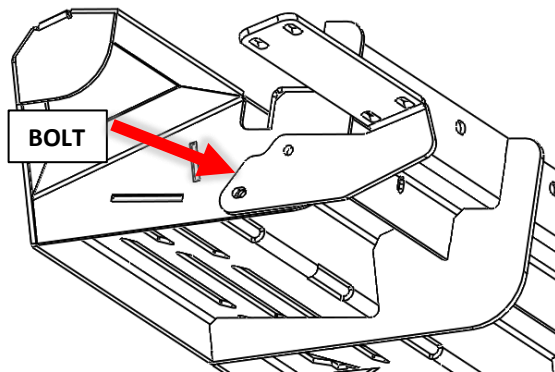

Figure 9: Installation of 90 Degree Bracket
- Loosely install the 90 degree bracket to the back of the rear bracing on the rear shroud. Use the pre-cut hole on the shroud bracing and the lower, slotted hole on the 90 degree bracket to loosely connect (Figure 9).